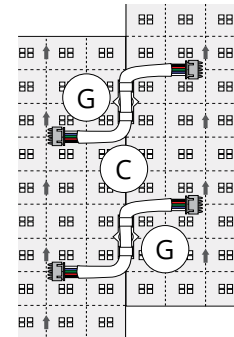

Figure 3
Use the long sheet-to-sheet connection wires (C) to bridge gaps and/or connect offset sheets as shown in Figure 3.
Route the connection wires so that the light from the LEDs is not blocked and hold the wires in this position using cable management clips with silicone adhesive backing (G) as shown in Figure 3. Once applied, let this adhesive backing cure for 10-30 minutes before routing wires through the clip. When possible, use a mechanical fastener to secure the clip. If this is not possible in your installation you may need to utilize a cyanoacrylate adhesive to create a reliable bond between the clip and light sheet. A supplementary document that outlines this process is available upon request.
Includes one 48" (1219.2 mm) 20 AWG 5-conductor power lead wire with stripped & tinned ends (E), five Wago connectors (F) (see Figure 7) and four cable management clips (G) (see Figure 3).